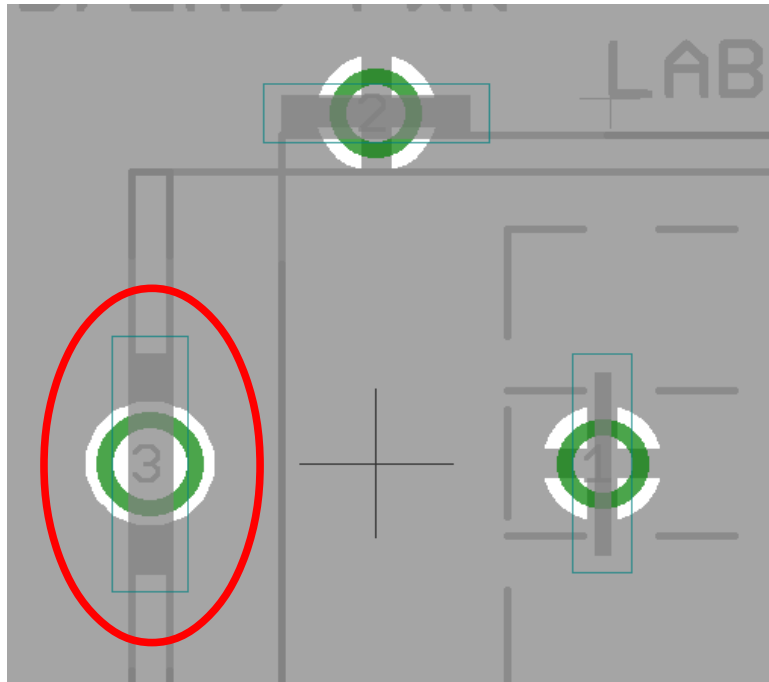

Figure 31: Slitted Hole in Inner Layer with Millings
1. Make sure board dimensions are well defined in layer MEASURES (see Figure 31 page 43).